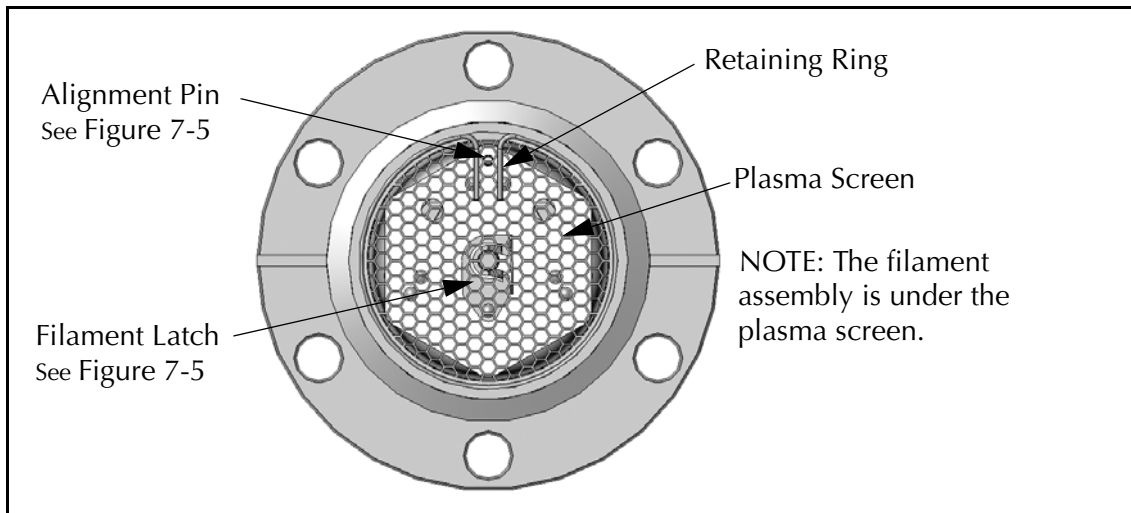

Figure 7-3 VQM MS Gauge Components
- Look closely at the port of the MS Gauge and make note of the position of the components as shown in Figure 7-3. Orient the gauge as shown in Figure 7-3.